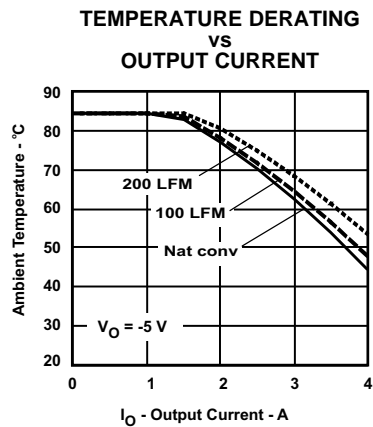
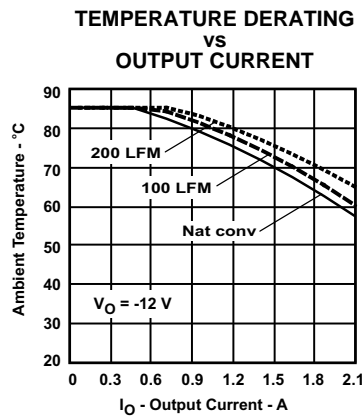
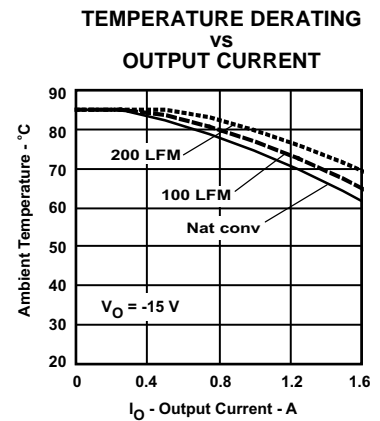

Figure 10.
Figure 11.
Figure 12.
- (2) The temperature derating curves represent the conditions at which internal components are at or below the manufacturer's maximum operating temperatures. Derating limits apply to modules soldered directly to a 100 mm x 100 mm, double-sided PCB with 2 oz. copper. Applies to Figure 10, Figure 11, and Figure 12.